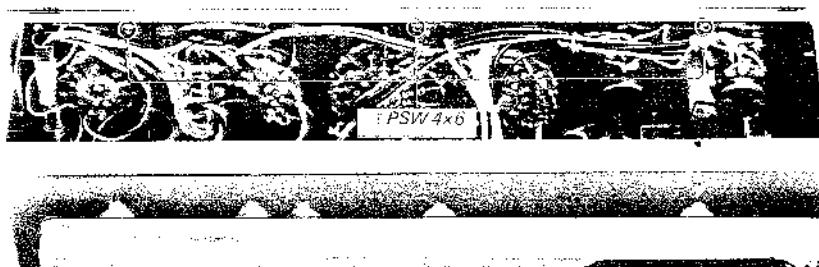

Fig. 2-2. Front-panel removal.
3. Remove the three screws (+PSW 4x6) behind the top edge of the front subchassis as shown in Fig. 2-2.